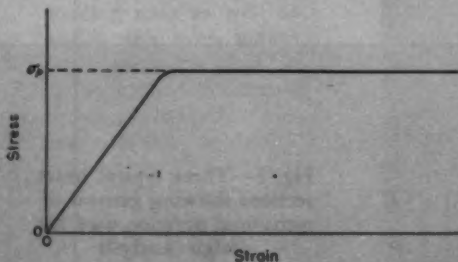

Fig. 5—Approximate shape of stress-strain diagram for certain mild steels
On the assumption that the stress-strain diagram of a material is of the general shape shown in Fig. 5, which is approximately true for certain mild steels, it is interesting to compare the maximum deflections for cantilever beams of rectangular and round cross section when the root sections have a purely elastic stress distribution and when all of the fibers of the root sections are at the elastic limit stress, Table 2.
*Based on material with stress-strain characteristics as shown in Fig. 5, elastic stress distribution at root section, and all root fibers at elastic limit stress.